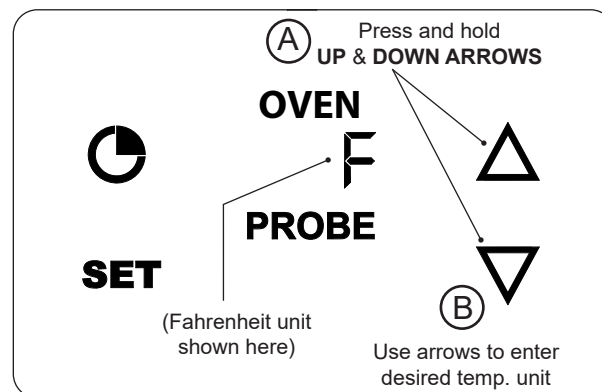

Fig. 42-3 Change temp. unit
1. Press and hold the **UP** and **DOWN** arrows until **°F** or **°C** is displayed (Fig. 42-3, A).
2. Press the **UP** or **DOWN** arrow to select the desired temp unit (Fig. 42-3, B).